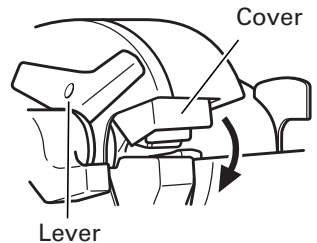

Fig. 16
- **Make absolutely sure that the cutter cover is closed when you don't carry out the cutting work. If the cover is kept open, the cutter can jam on foreign objects and cause serious accidents. (Fig. 16)**